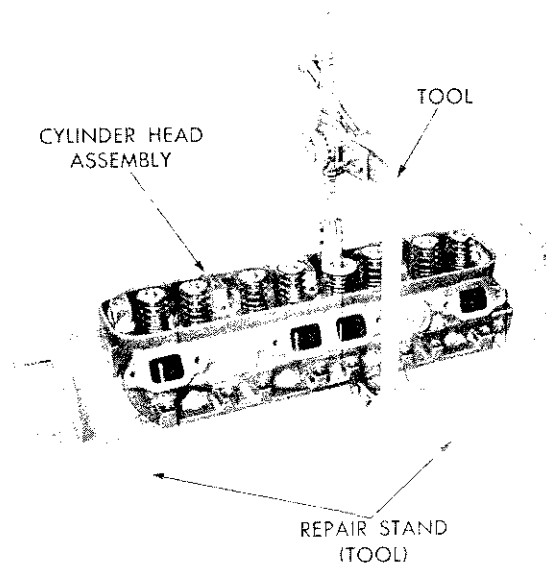

Fig. 12—Compressing Valve Spring Using Tool C-3422
(1) With the cylinder head removed, compress valve springs using Tool C-3422, as shown in Figure 12.
(2) Remove the valve retaining locks, valve spring retainers, valve stem cup seals and valve springs.
(3) Remove the burrs from the valve stem lock grooves to prevent damage to the valve guide when